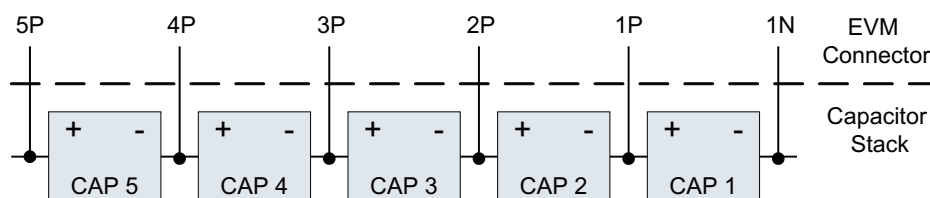

Figure 14. Connection Sequence
1. Connect the most negative terminal (– terminal of cap 1) of the serially-connected, 5-capacitor stack to the 1N PIN of the TB2–TB3 connector as shown in Figure 14. (See also Figure 9 for TB2–TB3 location).